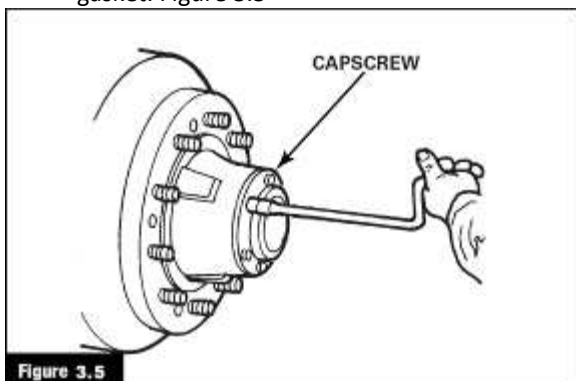

Figure 3.5
- Place a container under the hubcap to receive the draining oil then remove the hubcap and hubcap gasket. Figure 3.5